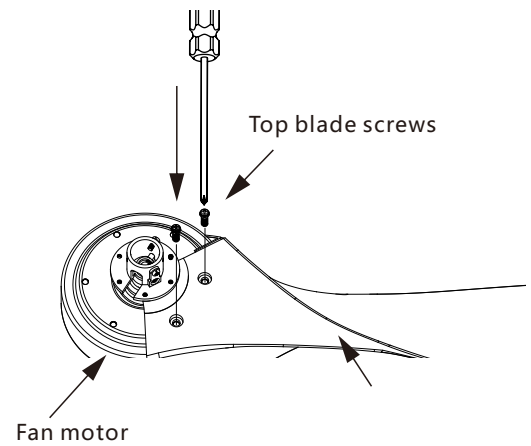
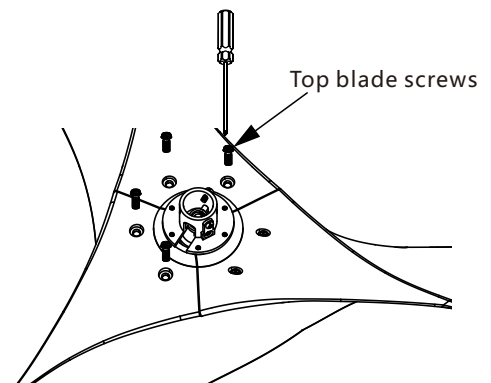

Figure 5
Figure 6
1. Slide one blade onto the motor as shown in Fig.5, aligning holes in blade with holes on the motor. Install the top blade screws provided. Repeat for all three blades. **DO NOT** tighten the screws completely at this stage.(Fig.6)